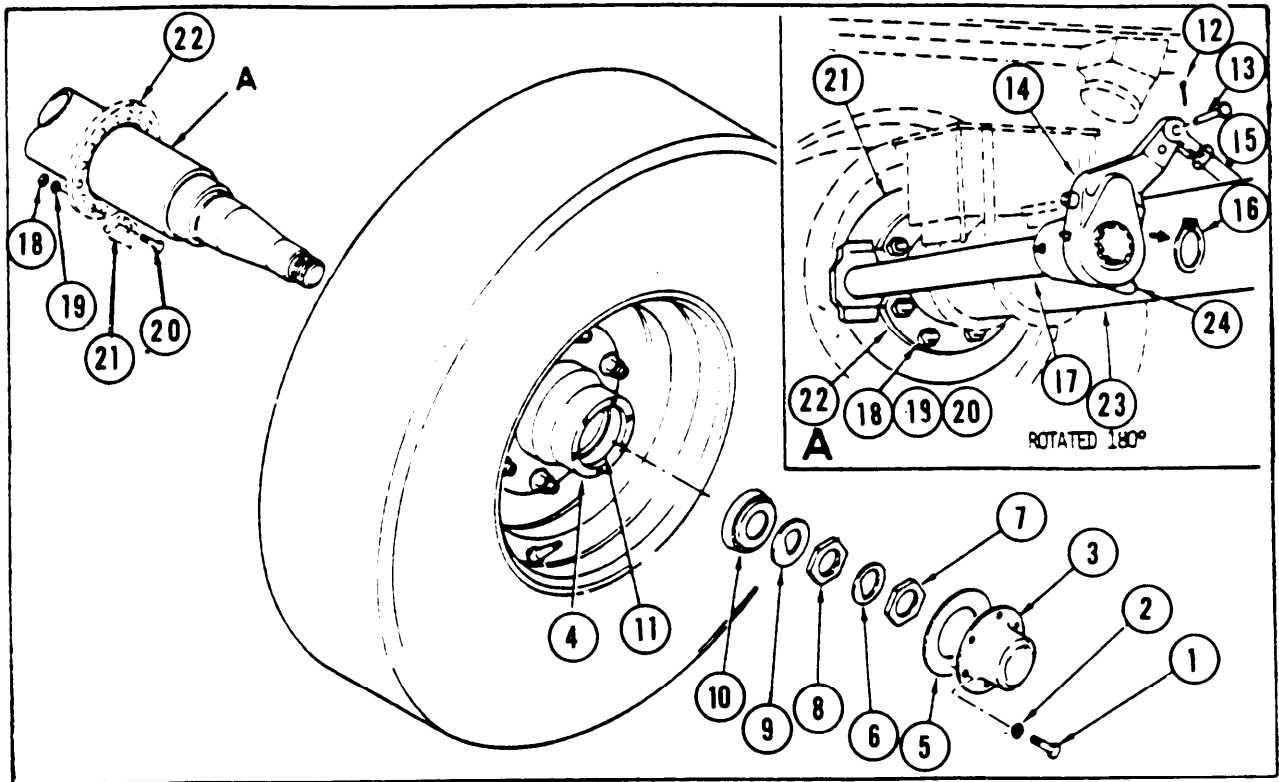

Figure 2-20. Trailer Service Brakes Assembly (ARMY)
2-30. TRAILER SERVICE BRAKES ASSEMBLY. (Figure 2-20) (ARMY)
(8) Install one anchor pin lock (9); install, finger tight, one anchor pinlock washer (8) and one anchor pin nut (7).
(9) Place remaining brake lining (13) and brake shoe (3), as a single unit, into position between anchor pin links (11).
(10) Align all holes and insert remaining anchor pin (10) through anchor pin links (11), brake shoes (3) and brake spider (12).
(11) Install remaining anchor pin lock (9), anchor pin lock washer (8) and anchor pin nut (7).
(12) Securely tighten all anchor pin nuts (7).
(13) Position brake rollers (6) in brake shoes (3) and install brake roller pins (5) and brake roller retaining rings (4).
(14) Position brake shoes (3) so that brake rollers (6) rest firmly on cam of cam shaft (17).
(15) Install retract spring pins (2) in brake shoes (3).
(16) Using standard brake spring tool, carefully install retract spring (1) over retract spring pins (2).
f. Installation. (Figure 2-20)
- (1) Trailer should be in raised position. If it was lowered after removal of service brake assembly, refer to paragraph 2-21, and raise the flatbed cargo trailer.
- (2) Carefully slip service brake assembly (21) over axle assembly (23). Align cam shaft (17) so that it fits through cam shaft bracket assembly (24).
- (3) Align holes in brake spider with holes in brake flange (22) and install bolts (20), washers (19) and nuts (18), then tighten securely.
- (4) Align splines of slack adjuster (14) with splines of cam shaft (17) and at the same time position slack adjuster (14) so that when installed it will connect to air chamber assembly (15).
- (5) Install slack adjuster (14) on cam shaft (17) and install lock ring (16) in groove on cam shaft (17) to secure slack adjuster.
- (6) Place end of slack adjuster (14) in clevis of air chamber assembly (15) and install clevis pin (13) and cotter pin (12).
- (7) Visually check that grease retainer assembly, inner bearing cone, and inner bearing cap are installed in the hub assembly, If these items have been removed, refer to paragraph 3-41, and install them.